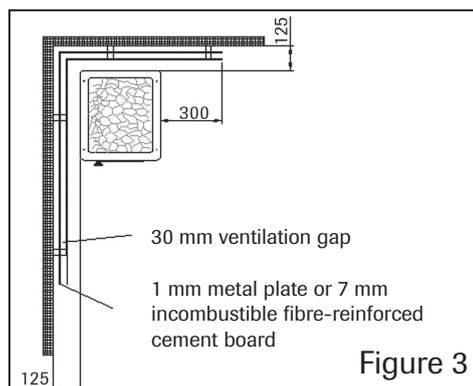

Figure 3
3. The safety distance mentioned in section 2 can be further reduced by half (125 mm) if a double shield is installed. A double thermal shield can consist e.g. of two boards of the type recommended in section 2 if a ventilation gap of 30 mm is left between the wall and the boards. (Figure 3)